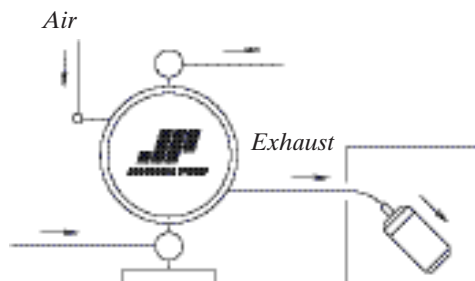

Fig 4.2
- Exhaust should be directed outside, not into the fluid in which the pump is submerged. For information on how to arrange the exhaust, see Note: Arranging outside exhaust and Fig. 4.2 below.